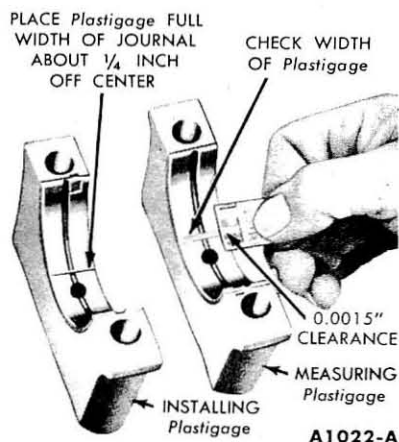

FIG. 53—Installing and Measuring Plastigage—Engine Installed
10. Place a piece of Plastigage on the bearing surface the full width of the bearing cap and about 1/4 inch off center (Fig. 53).